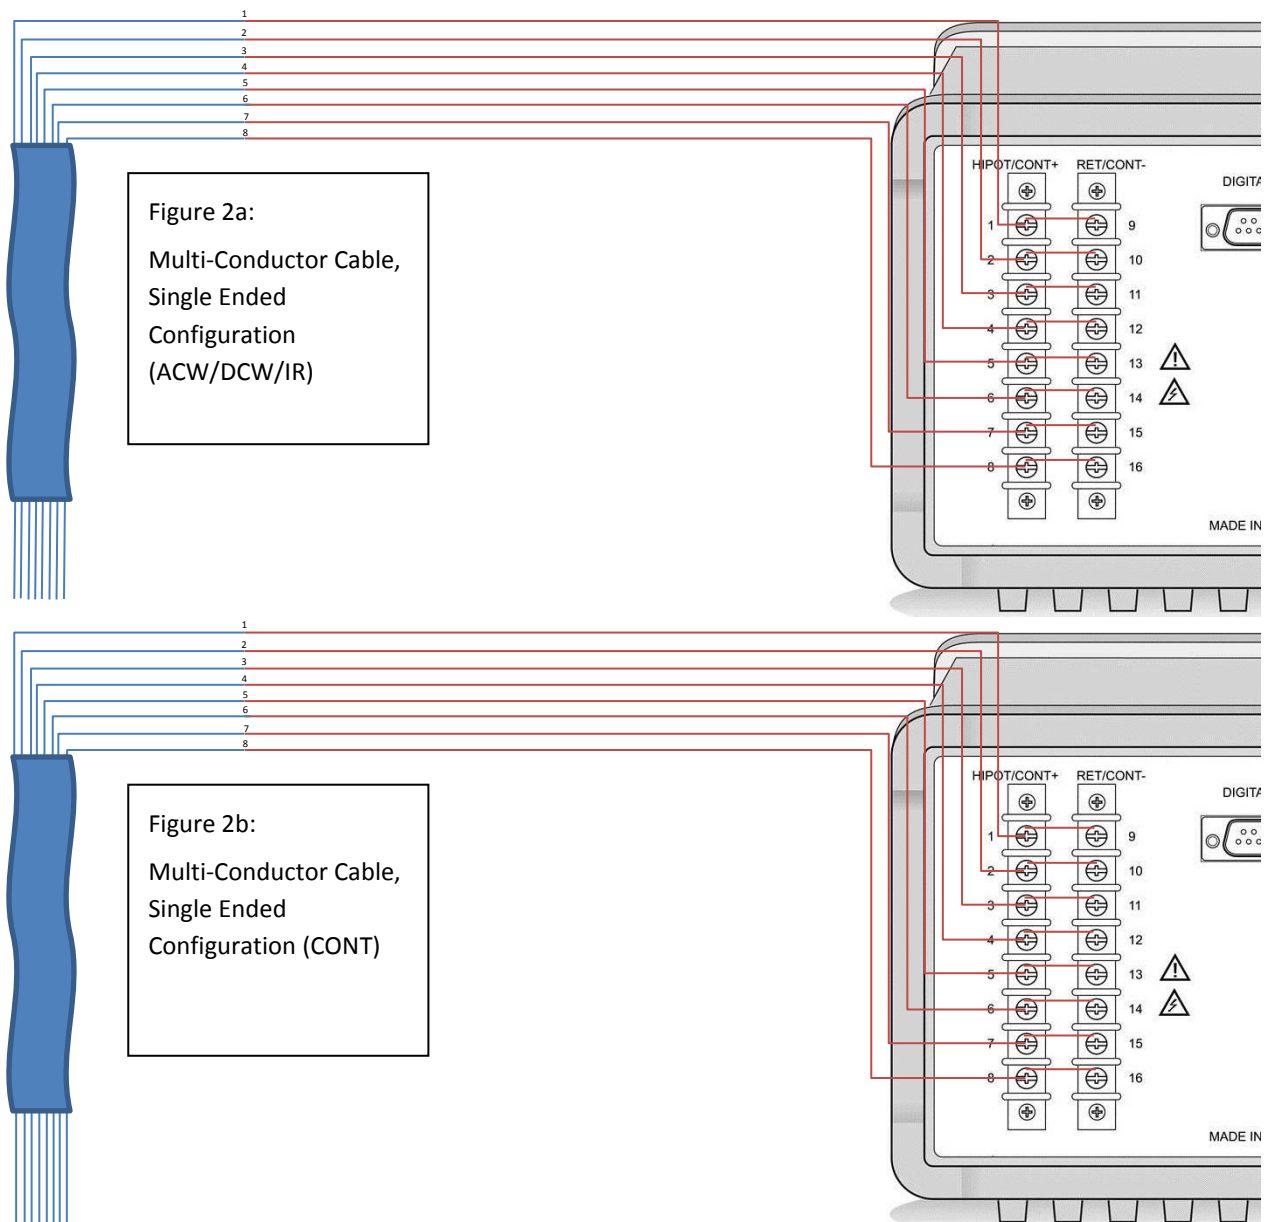

Figure 2a & 2b: To test an 8 (or fewer) conductor cable (single ended configuration) –
- Connect the cable wires to terminals 1+9 through 8+16 respectively (this can be more easily accomplished by shorting the terminals together as shown in figure 2a, 2b).
- The user can perform HV testing (ACW, DCW or IR) between any one or more conductors to any other one or more conductors (or to ground), with the other end of the cable open (as shown in Figure 2a), using the HV SUB TYPE and setting the switches accordingly (e.g. closing HV Relay 1 and RET Relays 10-16) prior to running a HV test step.
Wires configured as in Figure 2a